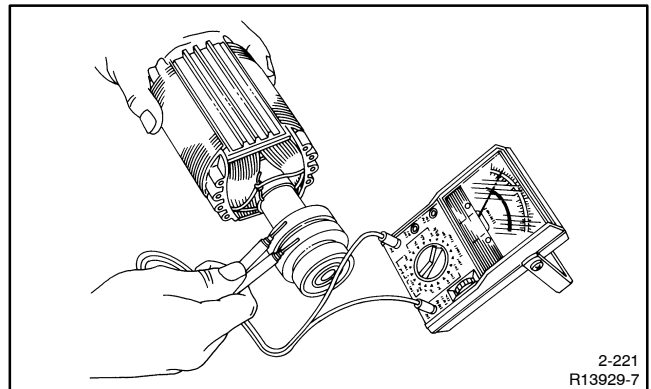

Figure 5-7 Rotor Resistance Check
4. Check the rotor for continuity and resistance. While performing ohmmeter tests, remove the two brush holder mounting screws. raise the brushes from the slip rings, and then move and secure the brushes out of the way. Measure the rotor resistance (ohms) between the two slip rings; see Figure 5-7. See Section 1.5 for rotor resistance readings. If the resistance readings are low, perform a megohmmeter test on rotor as described in the next step.